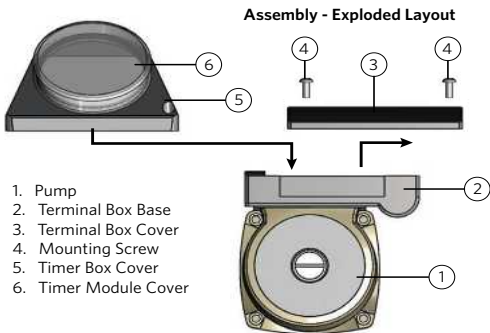
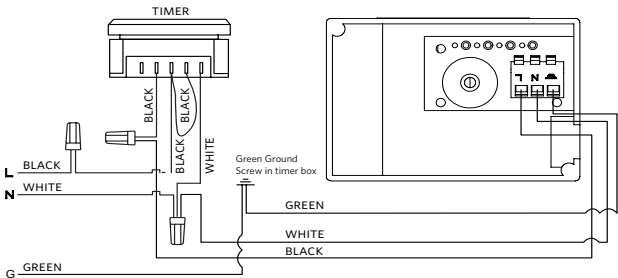

FIG. 1 Astro 2 Series circulator and 24-Hour Timer assembly drawing
FIG. 2 Astro 2 Series circulator and 24-Hour Timer wiring diagram
- Note:** Numerical component designations included in Steps 2 through 8 refer to circulator and timer components shown in **FIG. 1**.
- 2 Unfasten the mounting 2 screws (4) and remove the terminal box cover (3).
- 4 Connect power supply wires (black, white and green) to the timer unit and to the circulator terminals (as shown in **FIG.2**).